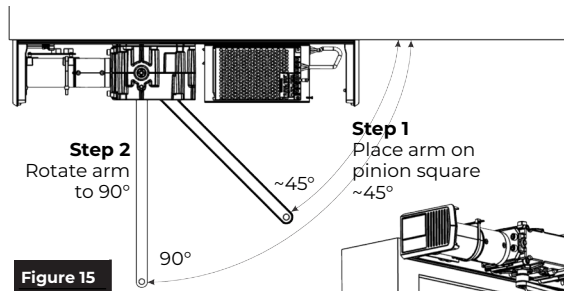

Figure 15
2. Rotate the pull arm toward the hinge until the arm is perpendicular (or 90°) to the door. (Figure 15)